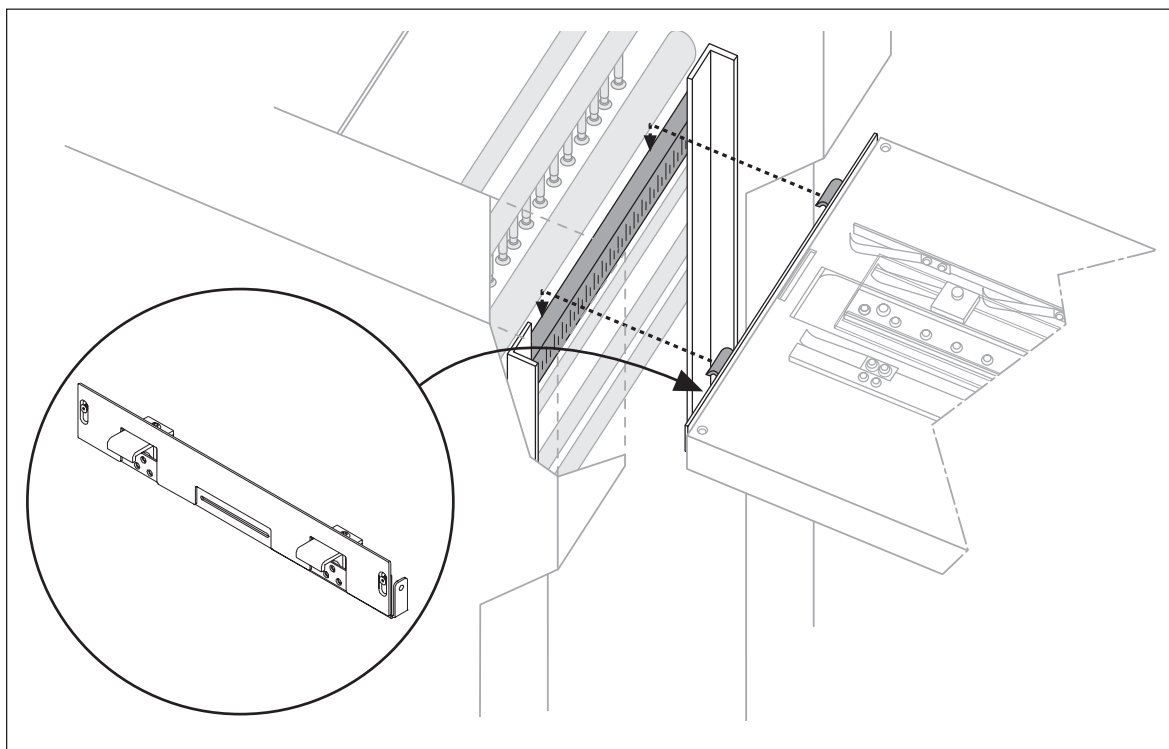

Figure 5. Connect the Ryobi to the 270RT Feeder
6. Lock the “J” hooks onto the cross bar of the press, making sure the hooks wrap around the bar (Figure 5).